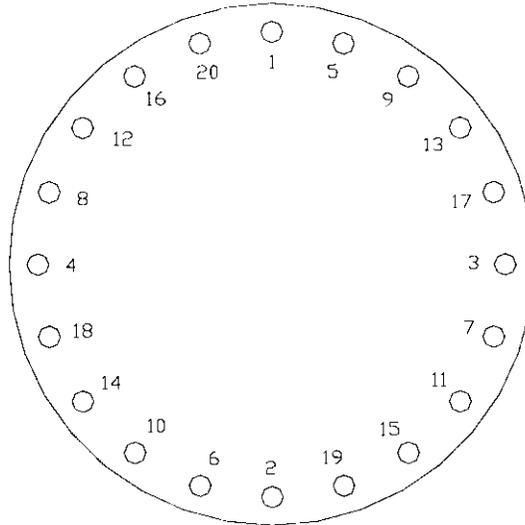

Figure 1.26 Tightening sequence for the 20 Conflat bolts.
- 1.26** Use a 5/16 12-point socket to tighten the 20 Conflat bolts. The tightening must be made gradually in 1/4 turn increments to a final torque of 15 ft-lbf (180 in-lbf). The tightening sequence is given by Fig. 1.26.